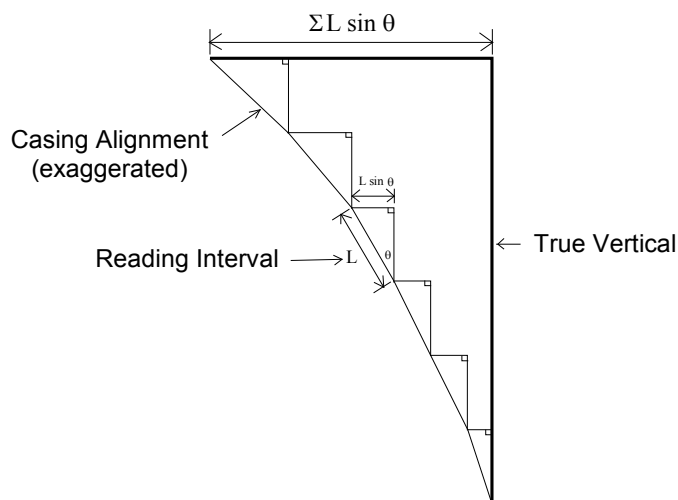

Figure 5 - Inclinometer Survey Description
Subsequent surveys of the inclinometer casing, when compared with the original survey, will reveal any changes of inclination of the casing and the locations at which these changes are taking place. Analysis of the change of inclination ($L \sin \theta$) is best performed by computing the horizontal offset of the upper wheels relative to the lower wheels over the reading interval (L) of the survey (usually the wheel base of the probe, two feet for English systems, 0.5 meters for Metric). At each position of the inclinometer the two readings taken on each axis (A+, A– and B+, B–) are subtracted from each other leaving a measure of $\sin \theta$. This value is then multiplied by the reading interval (L) and the appropriate factor to output horizontal deflection in engineering units (inches for English, centimeters or millimeters for Metric). These offsets are compared to the original survey offsets and then the differences accumulated to produce a deflection profile as shown in Figure 5.